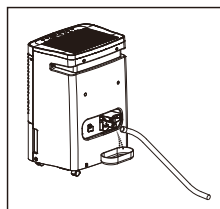

fig. 6
- f. When you want to remove the garden hose, prepare a drip tray (not supplied) to collect the water from the nozzle. (fig.6)